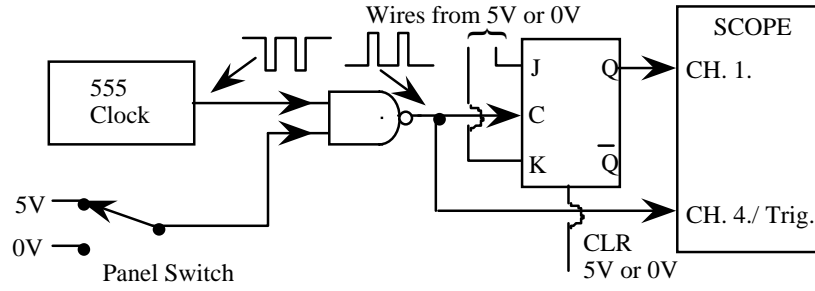

Fig. 9.11. JK test circuit.
6. A JK flip-flop with J=K=1 and CLR=1 is driven at the clock input by 1 kHz pulses from a NAND gate driven by a 555 timer (see Fig. 9.11 below). Diagram the waveforms for the clock and the Q output on the same time scale.
- Set  $\text{CLR} = 1$  and  $J = K = 1$ . Now drive the clock input of the JK with 1 kHz pulses from your clock circuit as shown in Fig. 9.11. Use the oscilloscope to observe the clock input (positive pulses out of the NAND gate), and the output,  $Q$ , of the JK. What happens when  $J = K = 0$ ?